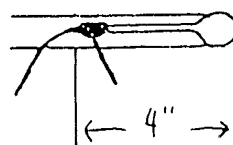

FIGURE 7.
2. Pull the ripcord with the long-nose pliers, slitting the outer covering of the leadwire back to the tape. Cut off the outer covering at the point indicated in **Figure 7**. Do this to both pieces.